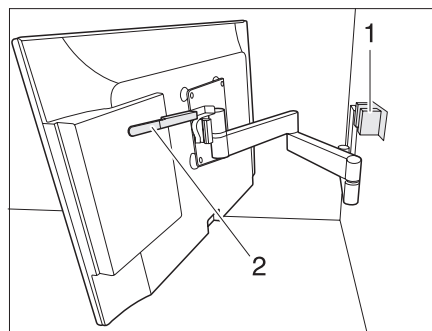

Fig. 7 Holder with jointed arm
- ▶ Tilt the flat screen towards the locking mechanism (Fig. 7,1).
- ▶ Pull down the lever (Fig. 7,2).
- ▶ Release the lever (Fig. 7,2). The lever clicks into place.